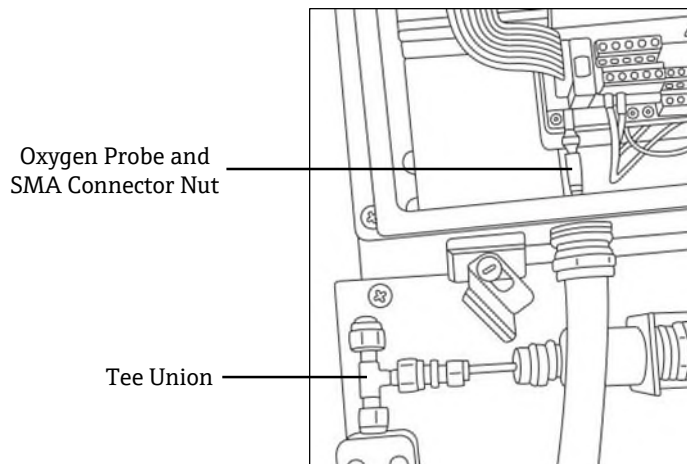

Figure 90. Remove connector nut (analyzer side)
- Loosen the connector nut on the probe at the SMA connector inside the analyzer enclosure. Refer to Figure 90.